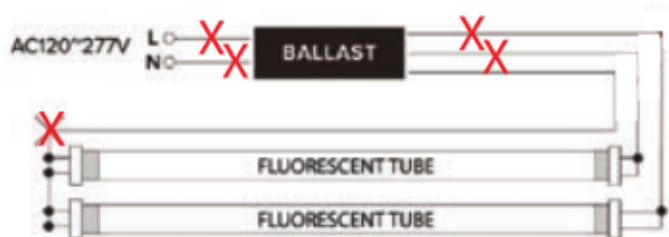

Figure 1
3. Disconnect power supply wires L (line) and N (neutral) to the ballast and leads from the ballast to the fluorescent sockets as shown in Figure 1.